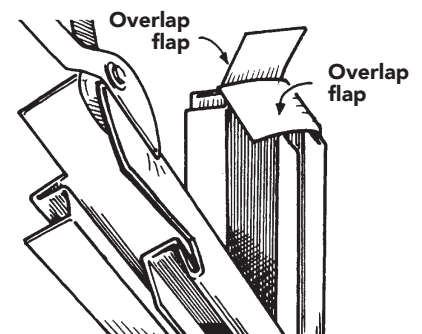

Figure 26
- Corner posts on homes with a second-story overhang need to be capped by making the cuts shown (Figure 26). Fold the flaps created over each other as indicated.